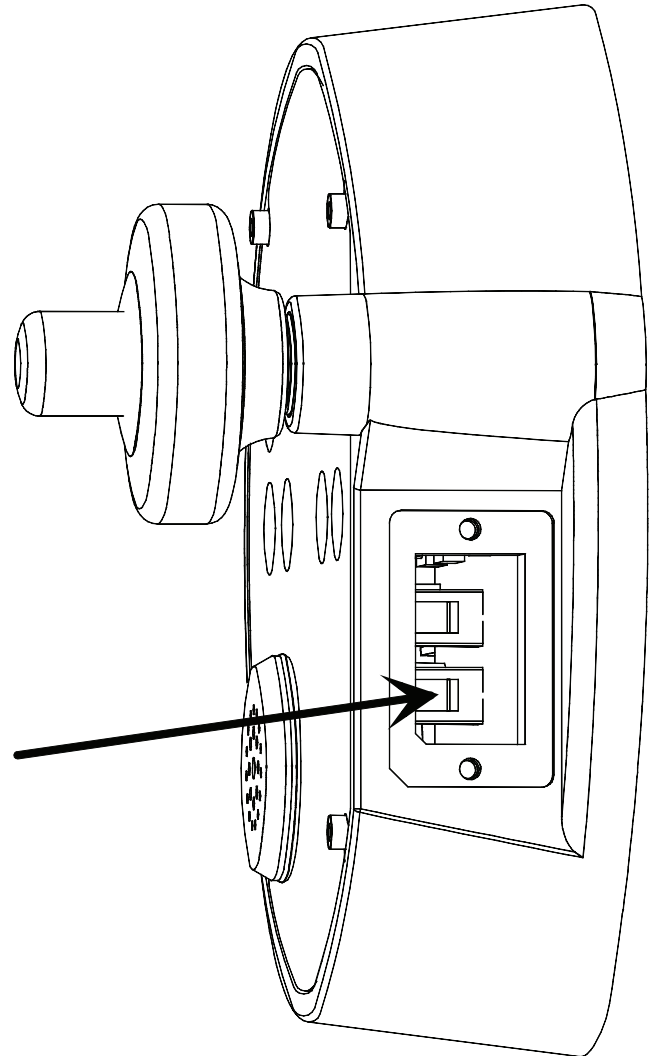

Figure 11-1
- ☉ Measure the resistance between the ground (-) terminal (as shown on Figure 11-1) of the electronic circuit and the tube of the sensing probe; the resistance should be less than 10  $\Omega$ . If it is higher, the steel tape might be broken or the connection between the sensing probe circuit and the sensing probe tube might be interrupted.